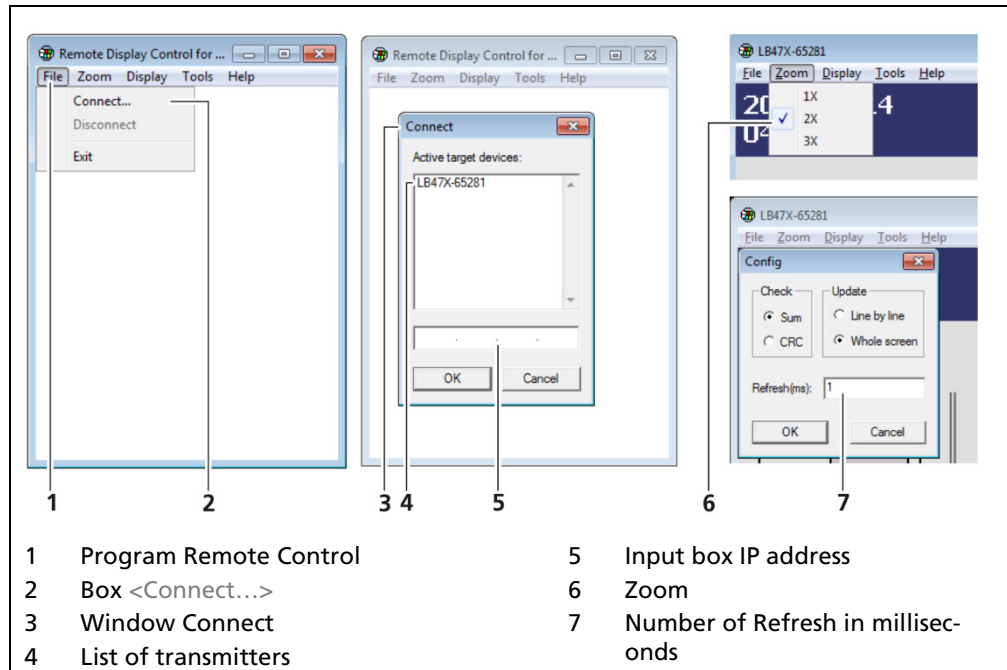

Fig. 50 Establishing connection to the EVU using the RC software
- ▶ The program starts (Fig. 50, item 1).
2. Click on the <File> tab and then on <Connect...> (Fig. 50, item 2), to establish a connection to the EVU.
- ▶ A new window "Connect" is opened (Fig. 50, item 3) and the connected transmitters are listed.
3. Click on the identifier of the transmitter (Fig. 50, item 4) or enter the IP address of the EVU in the input box (Fig. 50, item 5) (see Fig. 50, item 2).